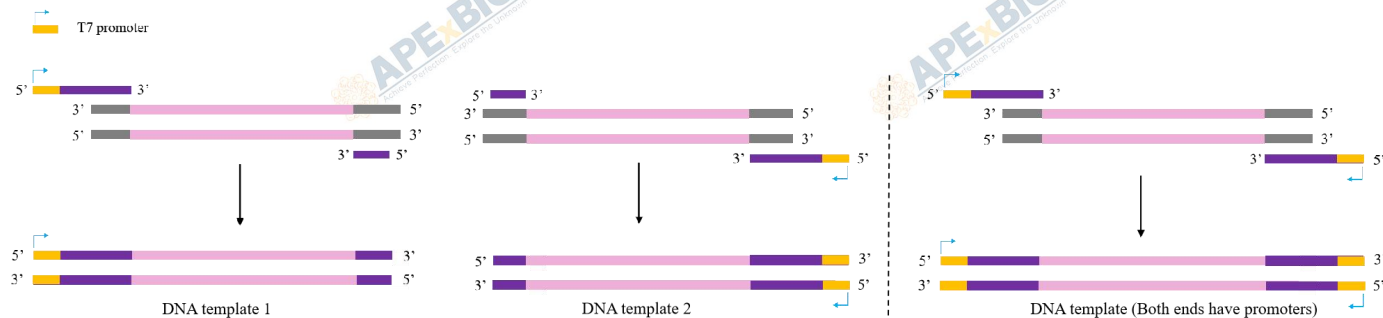

Figure 1 In vitro transcription template amplified by PCR
(1) PCR products, linearized plasmid DNA, cDNA, or oligonucleotides can all be used as templates for in vitro transcription. If long-chain dsRNA is transcribed, the transcription template can be obtained by PCR amplification with a forward primer with T7 promoter (TAATACGACTCACTATA), as shown in Figure 1.